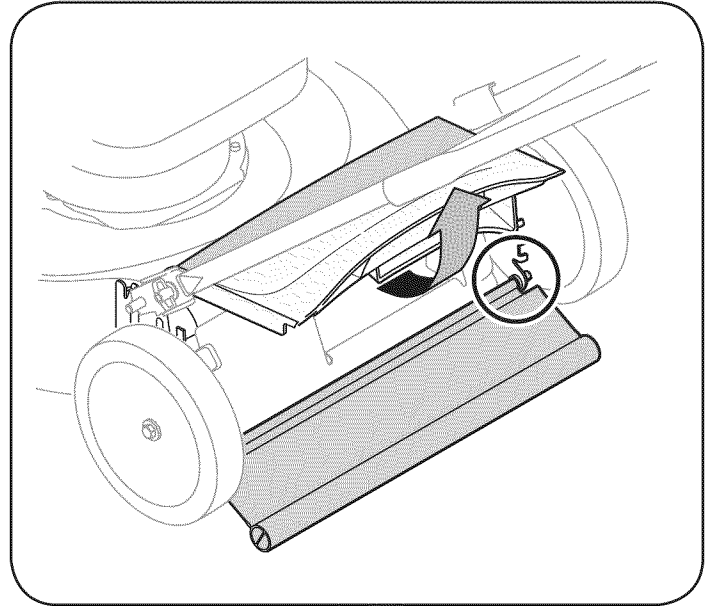

Figure 16
1. Lift rear door, and press flap in on either side to remove from hole. See Figure 16.